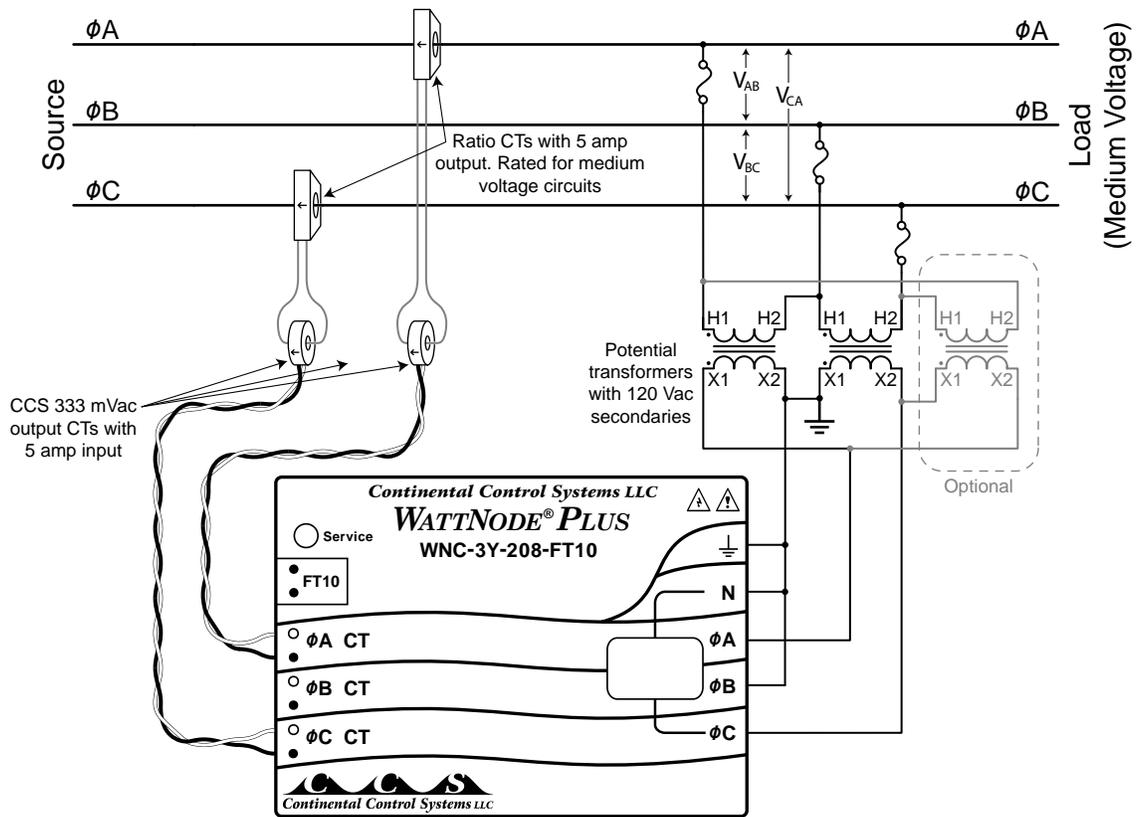

Figure 2: Monitoring a Delta Circuit
All of the above grounding configurations (including floating) can be monitored as shown in **Figure 2**. This can use two or three element PTs. The third PT element is redundant (unnecessary) for this configuration and is shown in gray in the figure. As a result of grounding the phase B output of the PT, the WattNode meter will only report voltage, current, power, and energy for two phases: phase A and phase C.
- **Two-Element PT:** See Figure 2: Monitoring a Delta Circuit.
Note: Because CCS does not offer a model with a power supply that can operate from 120 Vac line-to-line or 69 Vac line-to-neutral, it may be necessary to tie one PT output voltage to neutral and ground as shown in **Figure 2**.